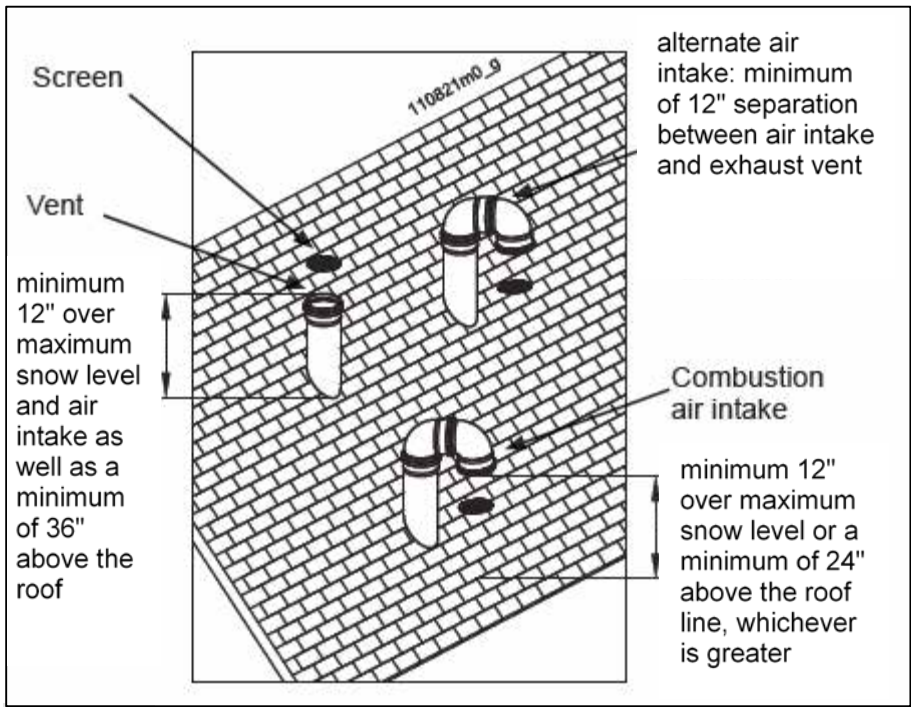

Figure 9-17
2. Prepare the vent termination and the air intake termination elbow (Figure 9-17) by inserting bird screens.
4. The air intake piping must terminate in a down-turned 180° direction utilizing two elbows see figure 9-17
5. The exhaust piping must terminate in a vertical coupling as shown in Figure 9-17. The top of the coupling must be at least 1 foot above the air intake. When the vent termination uses a rain cap, maintain at least 36" (914 mm) above the air inlet. The air intake pipe and exhaust vent pipe can be located in any desired position on the roof, provided that the exhaust vent termination is at least 1 foot above the air intake.
6. Maintain the required dimensions of the finished termination piping as shown in Figure 9-17.